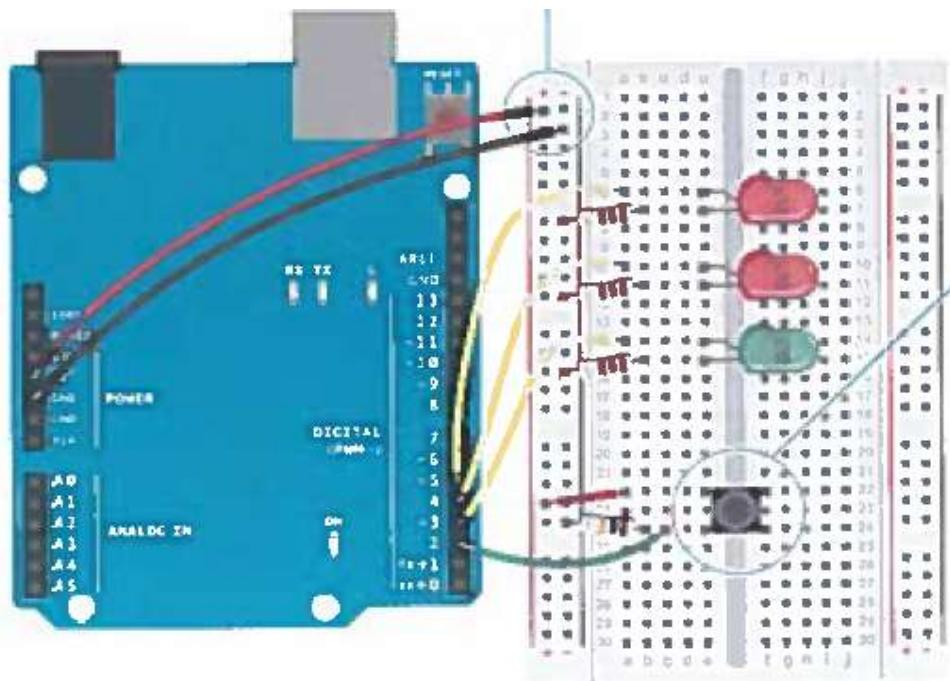

Figure 3: Circuit that will be used with following programs
- Implement the circuit given on Figure 3. Use 220- Ω resistors for pins 3, 4 and 5 and 10-K Ω resister for pin2 (of pin-7 if pin-2 is not usable)
Part III: Using the circuit given on figure 3, execute the following code to implement a flashing light system for three lights. Use the steps defined in the previous part and verify the output using Arduino kit and three LED's.
Part IV: Using the circuit given on figure 3 [page 34 (Fig. 1)], modify the code to: Define a variable "switchst" and initialize it with 'LOW'. Replace all the 'LOW' in previous code by "switchst" and high by "~switchst". Verify output
Part V: Using the circuit given on figure 3, modify the code to: use the switch to change the direction of flashing light system. Your system should reverse the direction whenever it receives a HIGH from the switch.